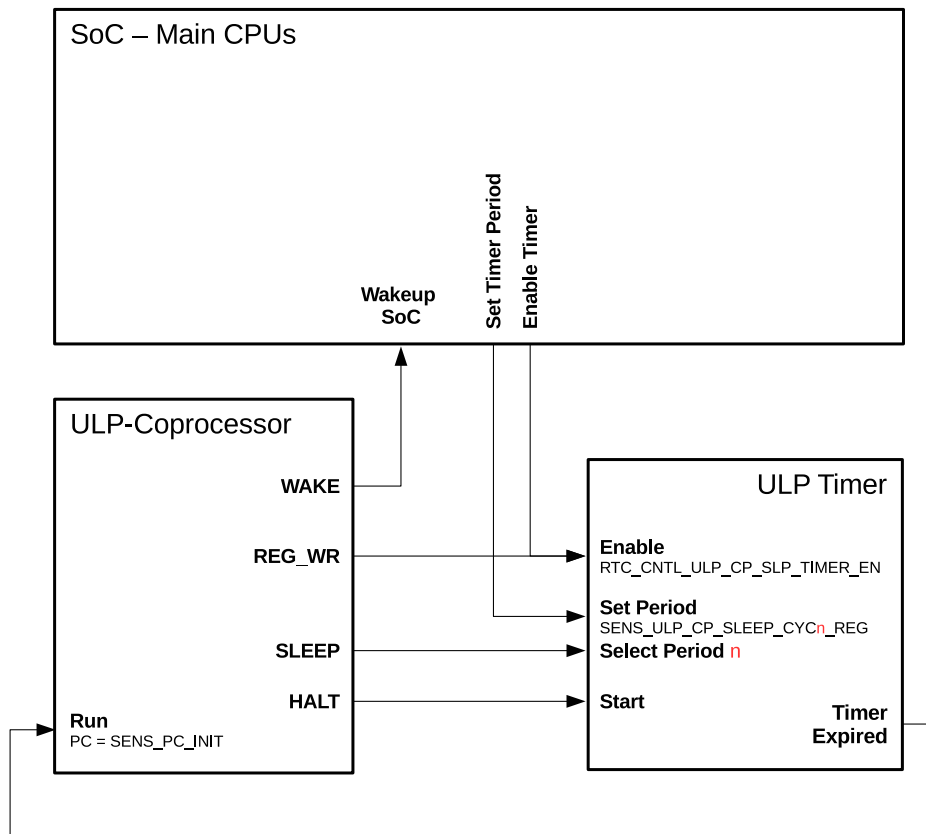

Figure 141: Control of ULP Program Execution
The ULP co-processor puts itself into sleep mode by executing the HALT instruction. This also triggers the ULP timer to start counting RTC_SLOW_CLK ticks which, by default, originate from an internal 150 kHz RC oscillator. Once the timer expires, the ULP co-processor is powered up and runs a program with the program counter (PC) which is stored in register SENS_PC_INIT. The relationship between the described signals and registers is shown in Figure 141.